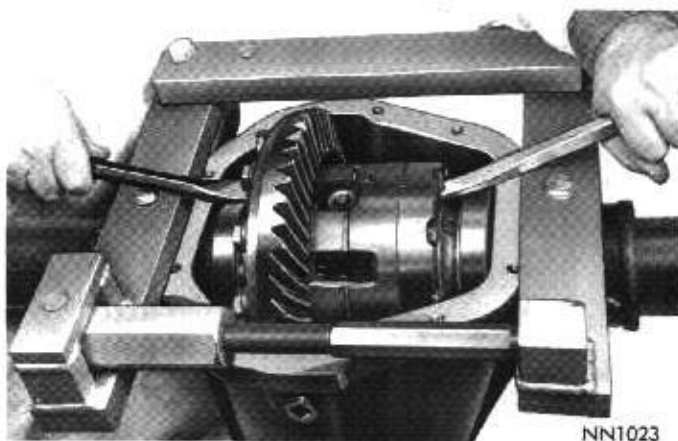
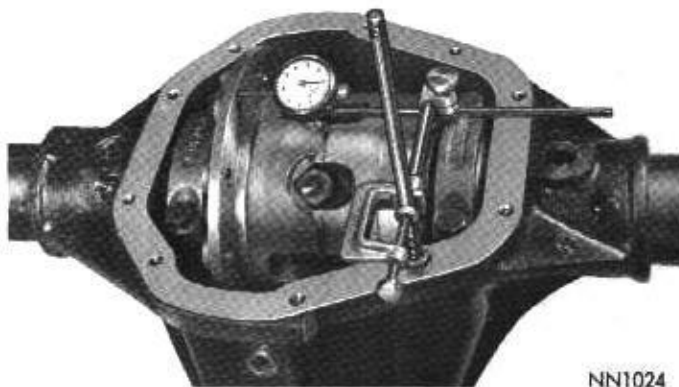

Fig. 17—Removing Differential and Drive Gear Assembly
Fig. 18—Measuring Differential Case Drive Gear Mounting Flange Face Runout
(11) Remove dial indicator and remove differential case and ring gear assembly from axle housing. A light prying action with a screwdriver or pinch bar will loosen assembly for easy removal (Fig. 17). Pry up differential case and ring gear as straight up as possible using leverage against differential case and carrier to prevent damage. Keep respective bearing cups with bearing cones, if they are not worn or damaged and are to be reassembled.
(12) Place the differential case between the soft jaws of a vise and remove the drive gear screws and discard. Using a fiber mallet, tap the drive gear loose from the differential case pilot and remove.
(13) If the drive gear runout exceeded .006 inch in step 5 differential case flange runout should be re-measured. Install differential case with respective bearing cups into axle housing. Loosen nut of spreader tool and remove. Install bearing caps and tighten snugly. Mount dial indicator in contact with flange face of differential case (Fig. 18), and measure runout as described in Step 5. Total allowable runout should not exceed .003 inch. It is often possible to reduce excessive runout by positioning drive gear 180 degrees from point of maximum runout when reassembling ring gear on differential case.
(14) Position carrier and tube assembly in vise with nose of carrier in the up position. Remove drive pinion nut and washer. Using Tool C-452 and holding Tool C-3281, remove drive pinion flange.